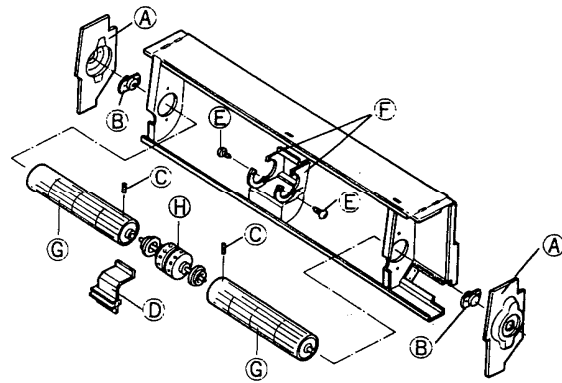

Fig. 6
- 5) Remove the two bearing cases (A) and bearing assemblies (B).
- 6) Loosen the two fan fixing bolts (C) using a hexagonal key.
- 7) Slide the two fans (G) left and right to remove them.
- 8) Remove the motor cover (D) and unscrew the two screws (E) fixing the fan motor (H) to open the two motor fixing arms (F).
- 9) The fan motor can be removed forward. Fig. 6